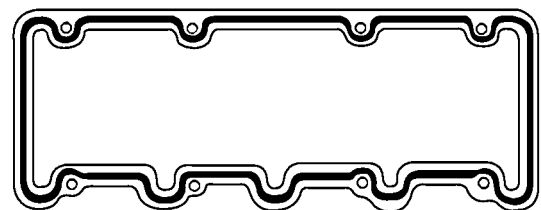

Figure 2-52: Applying Sealer to Rocker Arm Cover
10. Apply sealer to rocker arm cover (Figure 2-52). Make sealer bead 3/16 inch wide by 1/16 inch thick. Use RTV-type silicone, adhesive-sealer such as Loctite 592, or Permatex High Temp, Ultra Copper, or Ultra Blue. Allow sealer to cure slightly (skin over) before installing cover.